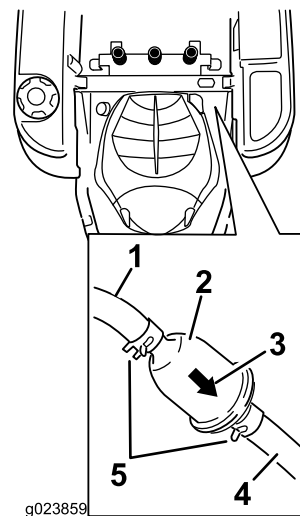

Figure 34
3. Locate the fuel filter on the side of the engine (Figure 34).
4. Squeeze the ends of the hose clamps together and slide them away from the filter (Figure 34).
7. Move the hose clamps close to the filter (Figure 34) to secure it in place.